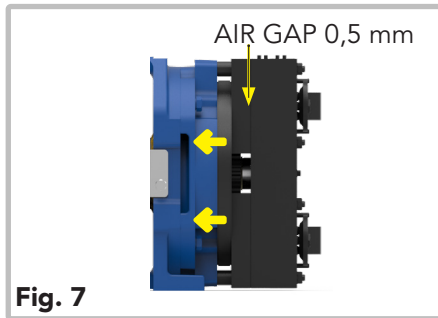

Fig. 7
- **Not powered** (electromagnet not powered): the brake disc is clamped by the movable surfaces (yellow arrows on Fig. 7). In this condition the system does not move.